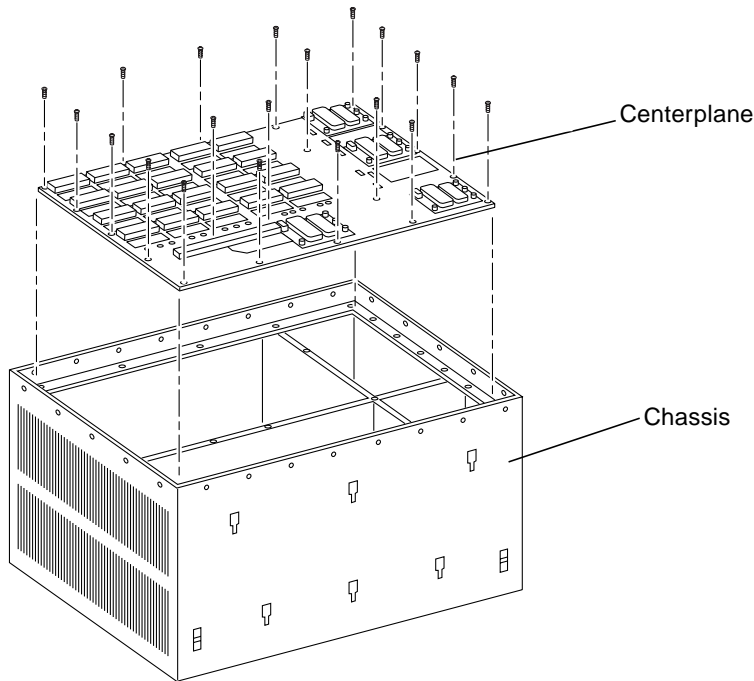

FIGURE E-26 Centerplane Replacement Detail in the 4500
Insert a screwdriver in the notch at the top center of the media tray to pull out the tray and separate it from the rear slip connectors (FIGURE E-26).
13. Remove the 20 screws that hold the centerplane to the front chassis (FIGURE E-26).
Tighten the bottom three captive screws and secure the media tray to the enclosure (FIGURE E-26).